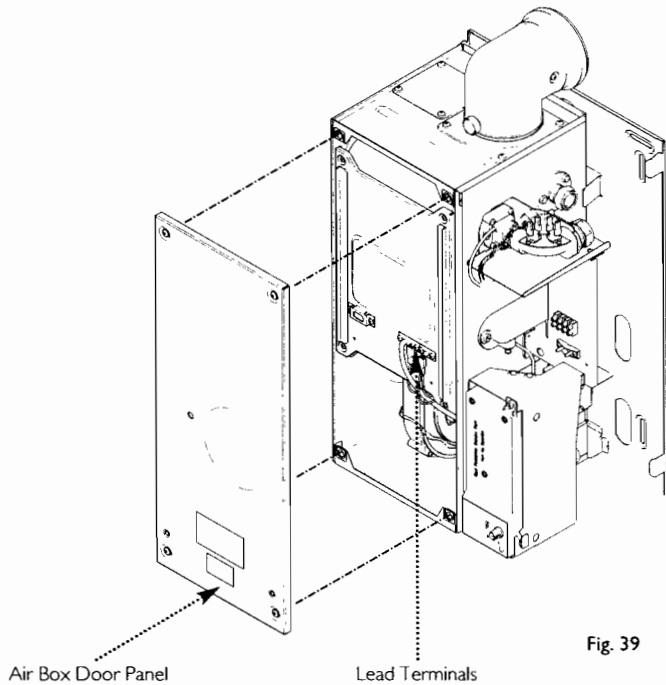

Fig. 39
6. Release the four $\frac{1}{4}$ turn screws securing the air box door panel and remove the door (Fig. 39).